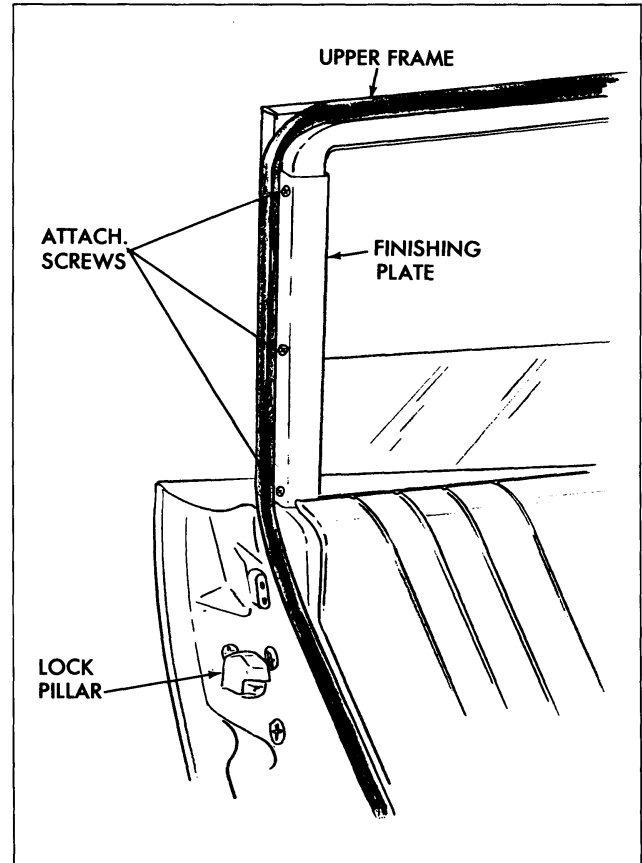

Fig. 3-59 Trim Support Finishing Plate
3. Remove three screws securing door belt trim support rear finishing plate and remove plate (Fig. 3-59).